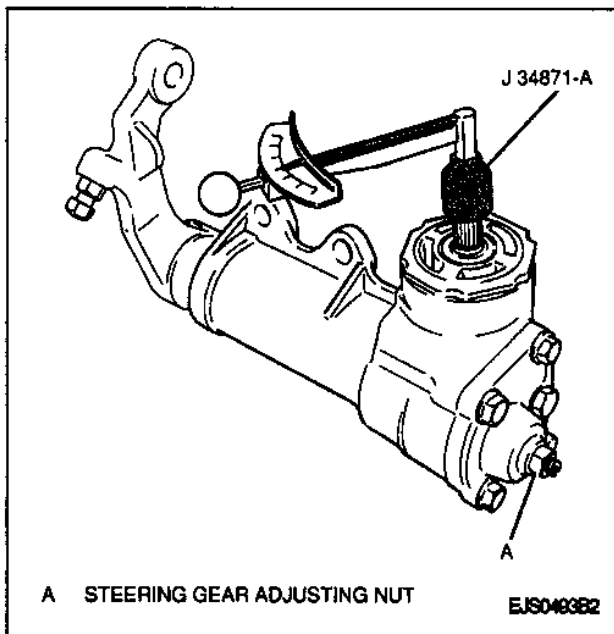

Figure 19—Adjusting Worm Preload Torque
- Worm shaft (including steering gear sector shaft) to 1 N.m (9 lb. in.) using a torque wrench and a J 34871-A (Figure 19).